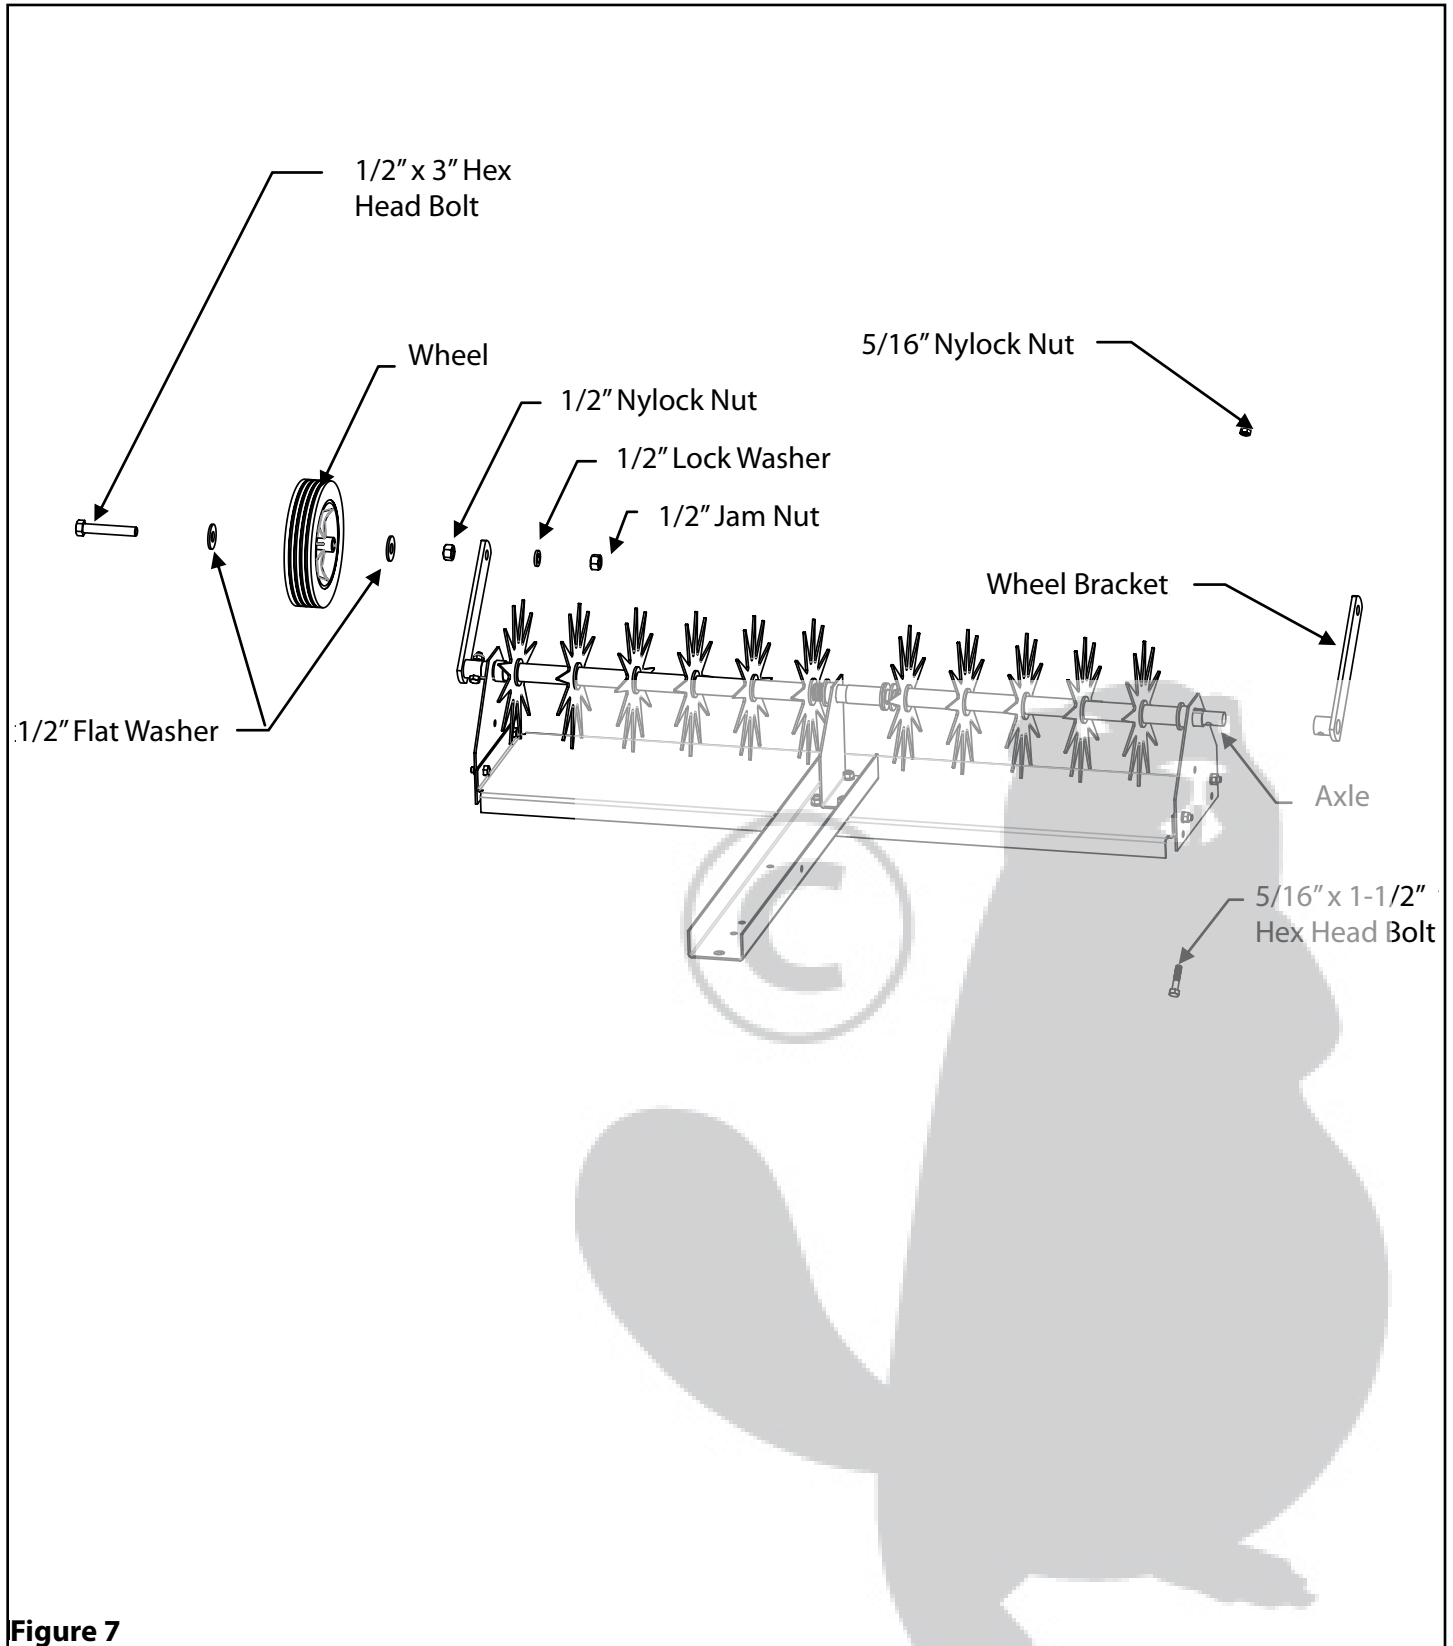

Figure 7
7. Align the hole of the Wheel Bracket with the hole in the Axle. Insert a 5/16" x 1-1/2" Hex Head Bolt into the hole in the Wheel Bracket and Axle. Secure with a 5/16" Nylock Nut. Repeat process on the other side. Place a 1/2" Flat Washer onto a 1/2" x 3" Hex Head Bolt, followed by a Wheel and then another 1/2" Flat Washer and secure with a 1/2" Nylock Nut (Do not over tighten or the Wheel will not turn). Insert this assembly into the hole in the Wheel Bracket, then place a 1/2" Lock Washer onto the bolt and secure with a 1/2" Jam Nut. Repeat the process on the other side. See Figure 7.